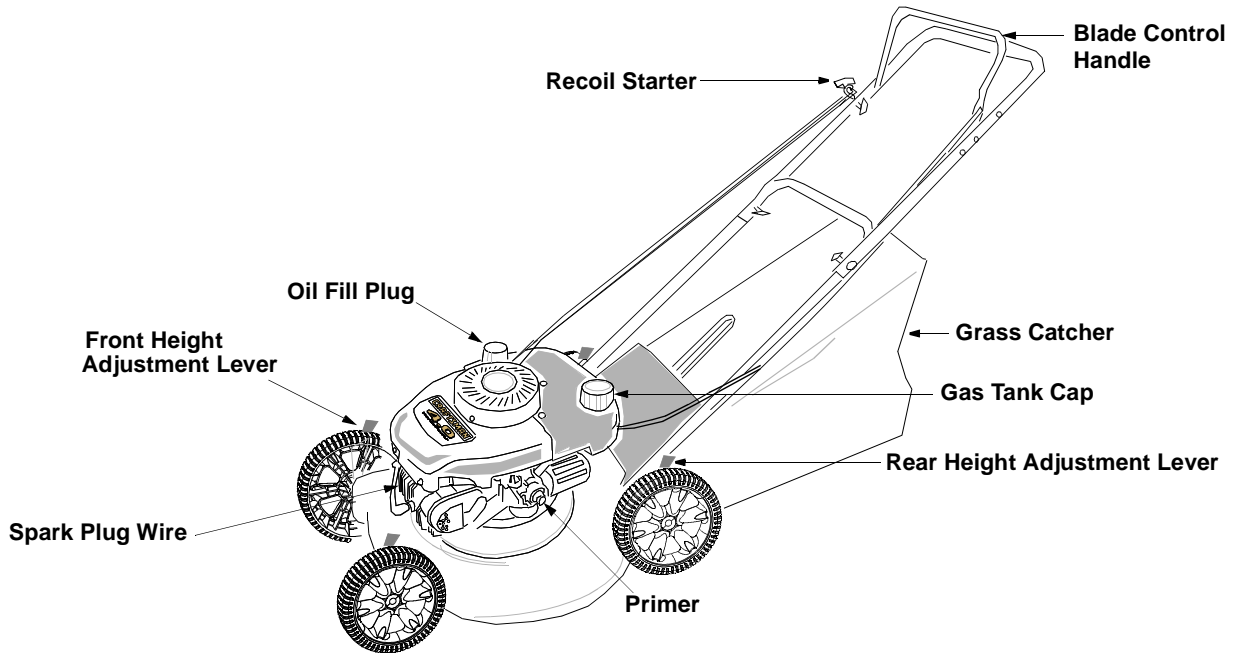

Figure 10
Read this owner's manual and safety rules before operating your lawn mower. Compare the illustrations in Figure 10 with your lawn mower to familiarize yourself with the location of various controls and adjustments. Save this manual for future reference.
- Clean area around gas tank cap. For location, see Figure 10. Remove cap.